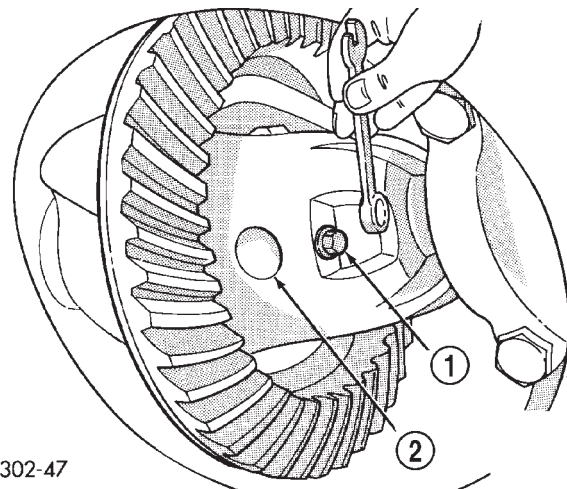

Fig. 19 Mate Shaft Lock Screw
(1) Raise and support vehicle. Ensure that the transmission is in neutral.
(2) Remove wheel and tire assembly.
(3) Remove brake drum. Refer to Group 5, Brakes, for proper procedure.
(4) Clean all foreign material from housing cover area.
(5) Loosen housing cover bolts. Drain lubricant from the housing and axle shaft tubes. Remove housing cover.
(6) Rotate differential case so that pinion mate gear shaft lock screw is accessible. Remove lock screw and pinion mate gear shaft from differential case (Fig. 19).